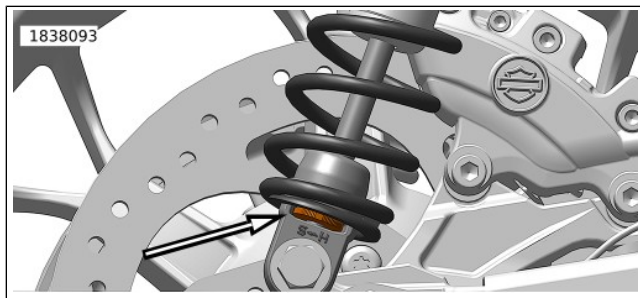

Figure 15. Rebound Adjuster
3. See Figure 15. Rebound damping adjustment.